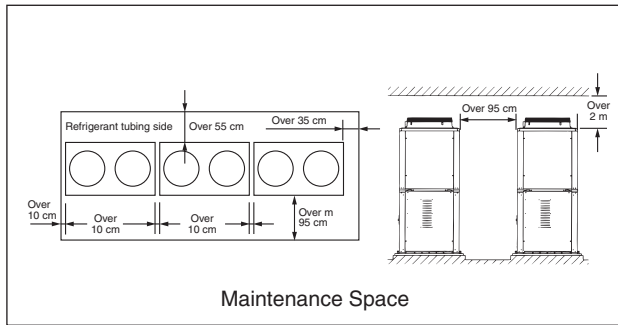

Fig. 1
- When installing outdoor units, bear in mind the need of space for maintenance. Check with Fig. 1 and make sure there is enough space.
- In order to improve heat exchange, install the outdoor unit in a location that is well ventilated. Provide maintenance space and separation from flammable materials as per Figs. 1 and 2.